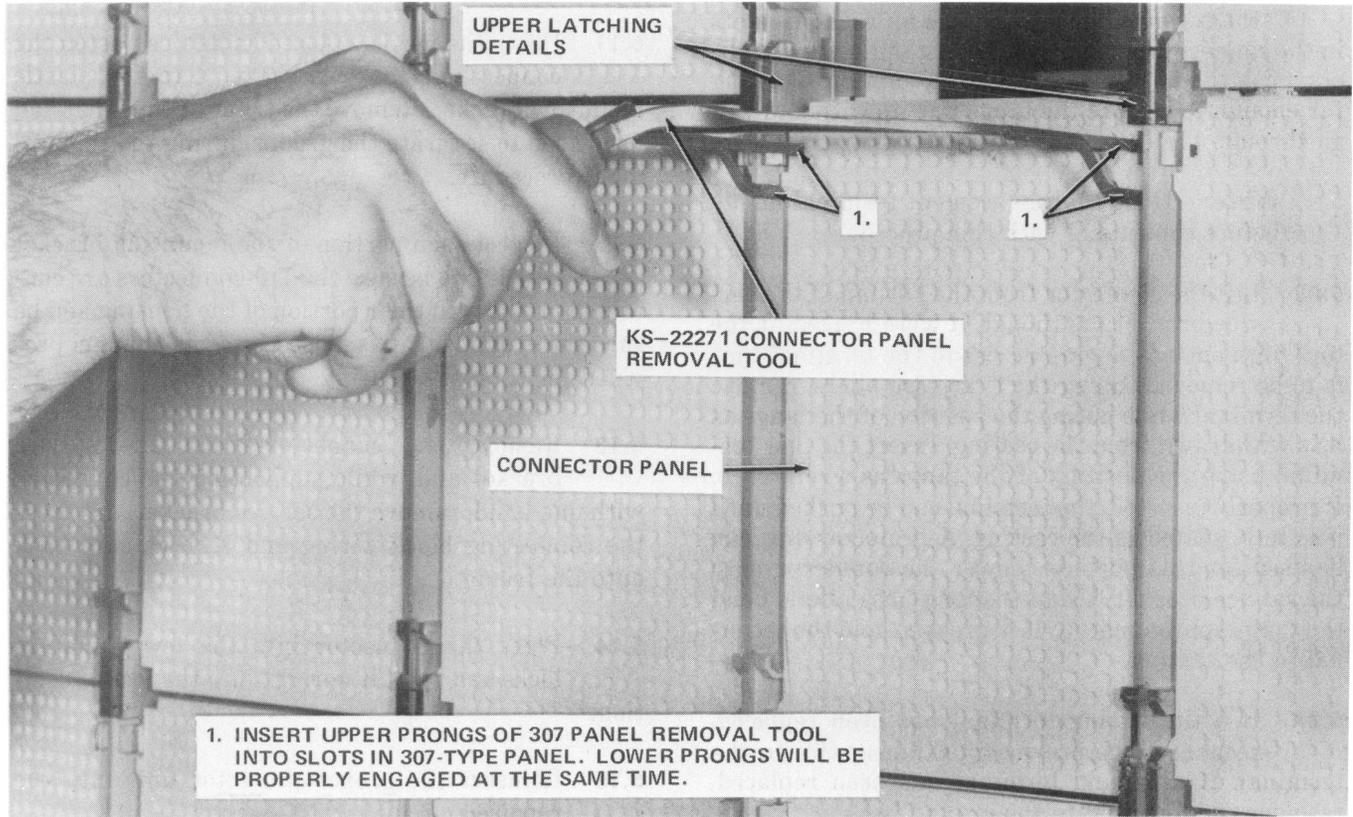

Fig. 1—Engaging Connector Panel Removal Tool Into Panel
5.02 Use the connector panel removal tool (Fig. 1 and 2) to remove connector from the frame. A slight downward pressure applied to the tool will release the upper latching details. Tilt the top of the connector outward and downward, then lift the connector off the bottom pivot pins.